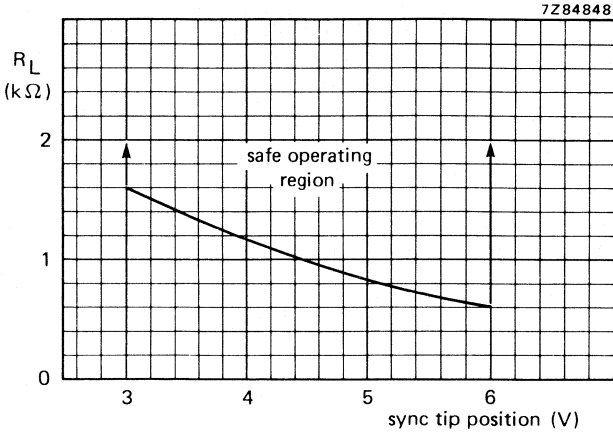

Fig. 4 Safe operating area for load resistor (R_L) at pin 8 as a function of sync tip d.c. position.
(1) TOKO 7 P series coil 78 R former.
(2) See derating curve Fig. 4.